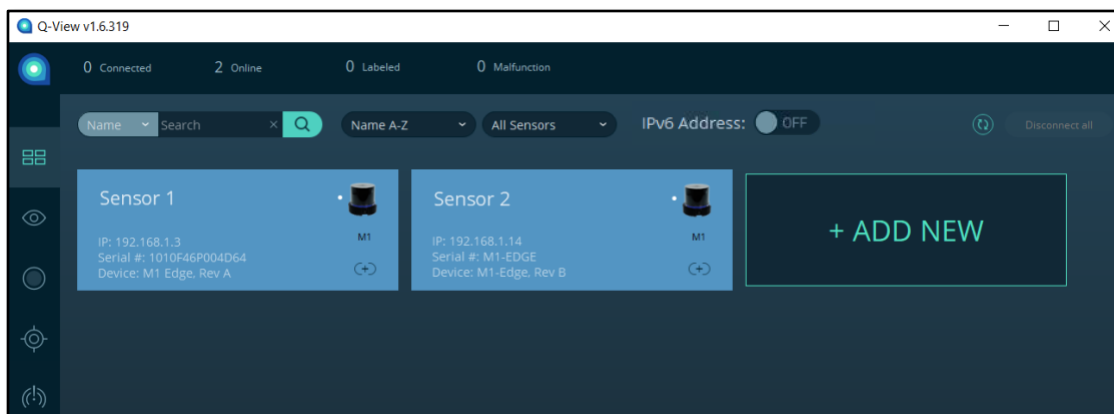

Figure 18. Q-View Dashboard Tab: Initial
1. From Q-View, select the **Dashboard** tab. See View the Dashboard Panel (page 41) and Figure 18. Q-View Dashboard Tab: Initial.